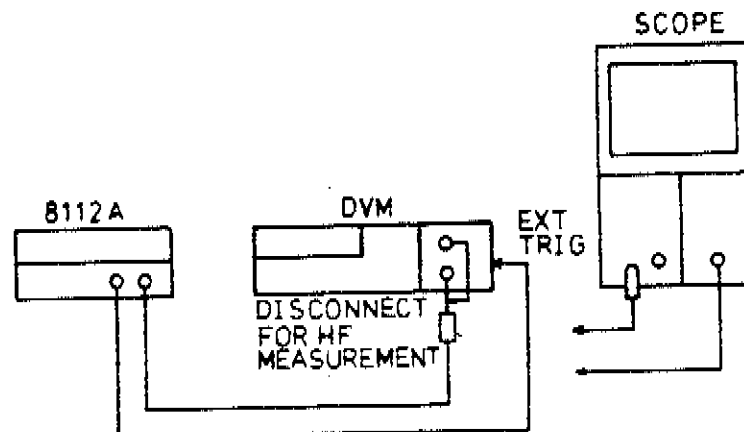

Figure 4-6. Equipment setup for Output Levels performance test
1. Connect equipment as shown in Fig. 4-6.